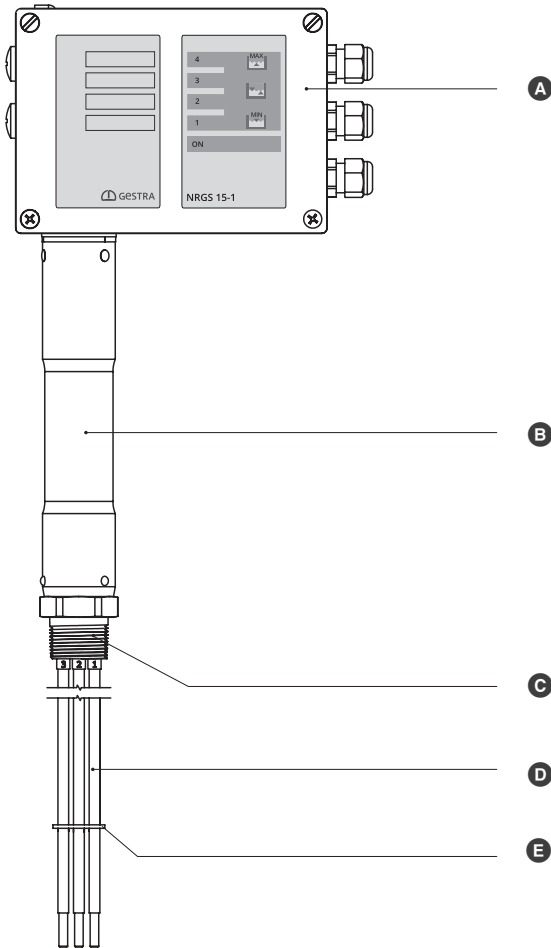

Fig. 2
- Do **not** install the terminal box **A** or upper part of the level electrode cover tube **B** in the boiler's thermal insulation! **Fig. 2**